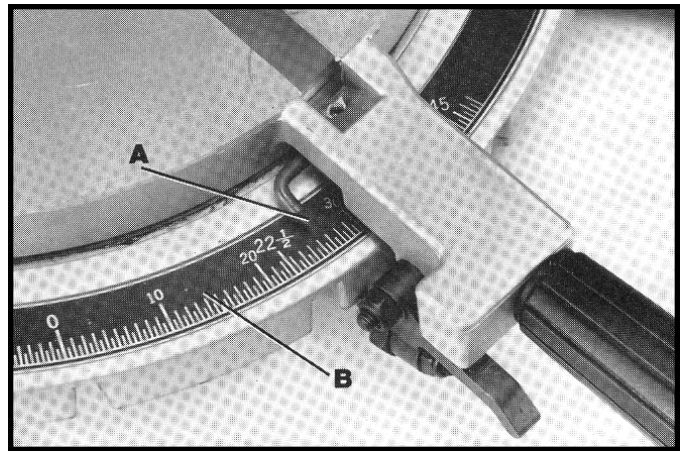

Fig. 16
A pointer (A) Fig. 16, is supplied which indicates the actual angle of cut. Each line on the scale (B) represents 1/2 degree. In effect, when the pointer is moved from one line to the next on the scale, the angle of cut is changed by 1/2 degree.